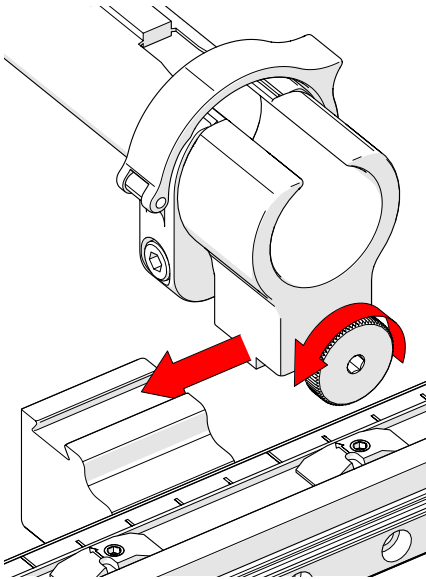

Fig. 75 - Loosen and slide on
1. Loosen the knob on the cable management dovetail mount. Slide the mount onto the dovetail link (Fig. 75).